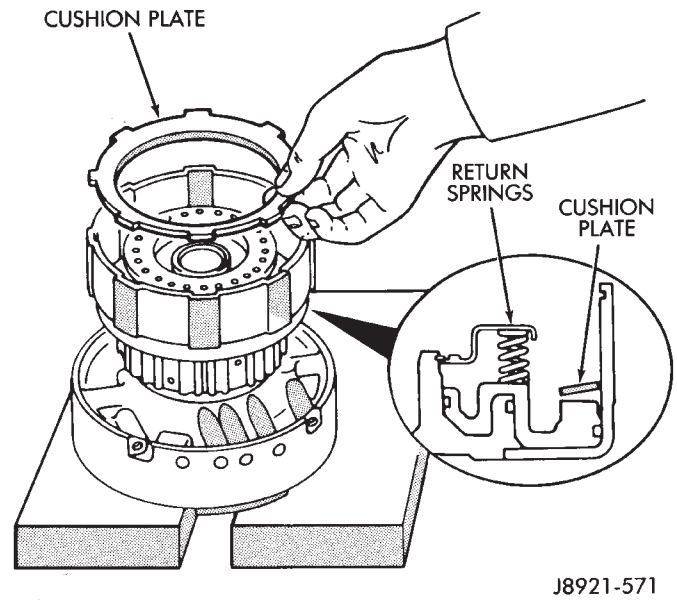
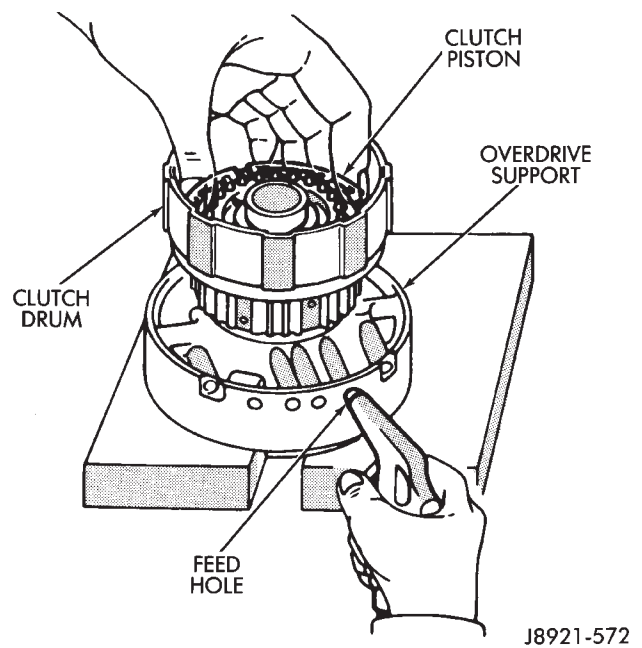

Fig. 243 Removing Cushion Plate
Fig. 244 Removing Forward Clutch Piston
- (11) Remove clutch pack cushion plate (Fig. 243).
- (12) Compress clutch springs with Tool 7538 and remove piston snap ring.
- (13) Remove spring compressor tool and piston return springs.
- (14) Remount forward clutch drum on overdrive support (Fig. 244).
(15) Apply compressed air through feed hole in support to remove piston (Fig. 244). Use only enough air pressure to ease piston out of drum.
(6) Lubricate new clutch piston O-rings with Mopar Door Ease, or Ru-Glyde. Install rings on clutch piston and install piston in drum.
(7) Install piston return springs.
(8) Compress piston return springs with Tool 7538 and shop press and install piston snap ring. Be sure snap ring end gap is not aligned with any notches in drum.
(9) Install cushion plate in drum. Concave side of plate faces downward (Fig. 243).